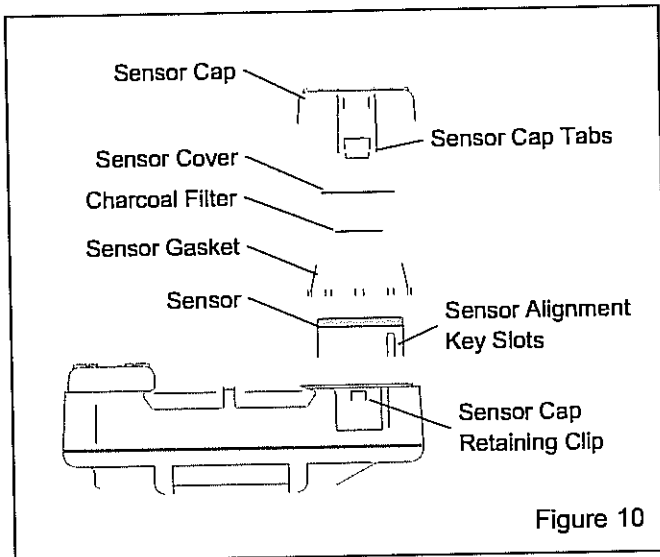

Figure 10
5.2 Replacing the Sensor, Ref Figures 10 and 11 *Replace the sensor in a clean, non-hazardous environment.*